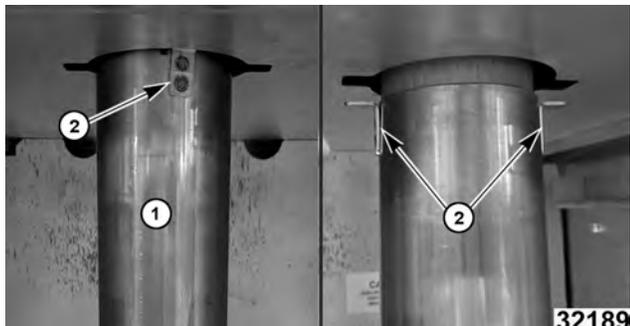

Fig. 6
2. Remove drain tube (1, Fig. 6) by turning to align tabs (2, Fig. 6) with slots. Tube will drop free.